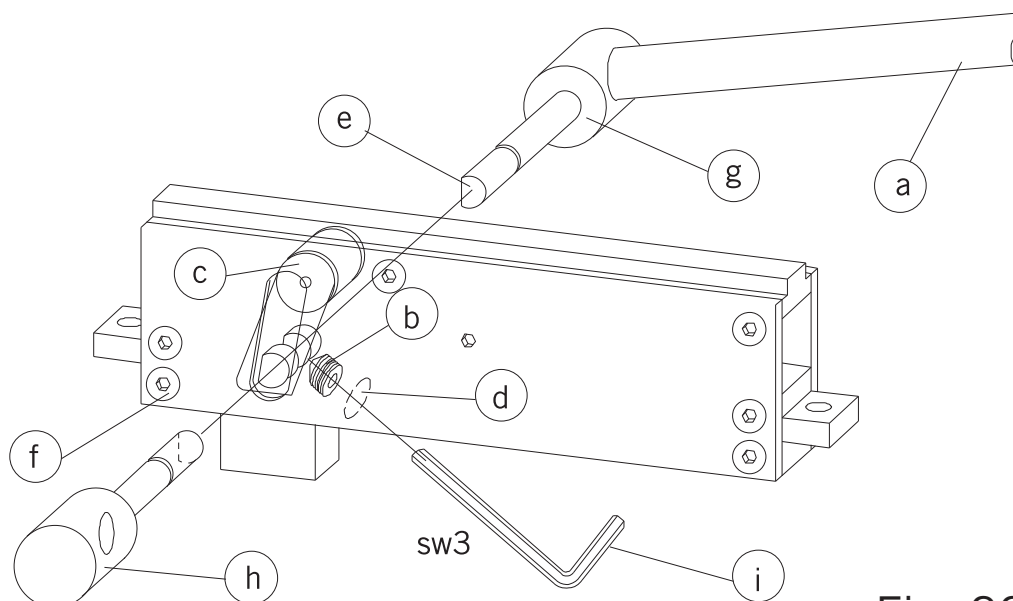

Fig. 22
22. Switching over the floor spring connector (Fig. 22):